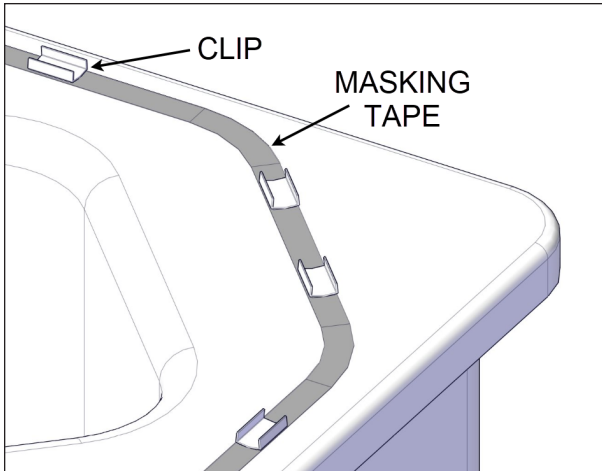
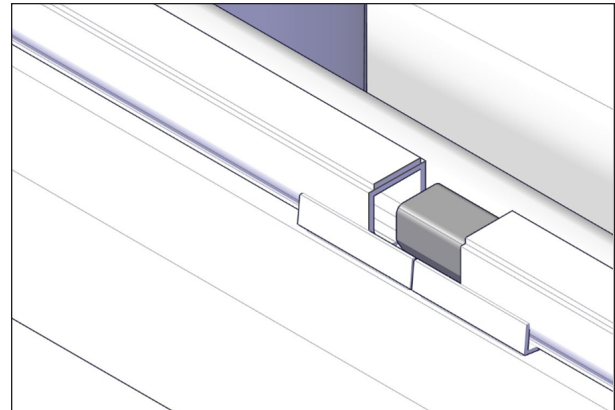
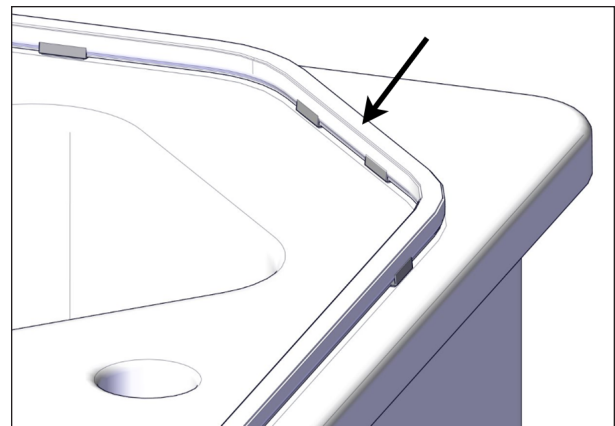

FIGURE 96: MASKING TAPE AND CLIPS
FIGURE 97: SEAL JOINT CONNECTOR
FIGURE 98: SEAL INSTALLATION
4. Apply the masking tape on the perimeter of the spa where the seal will be installed. The ideal location for the seal is closer to the swim spa interior edge on a flat surface, see Figure 96.
5. The number of seal clips is limited. Temporarily install the clips all around the spa to ensure the best distribution (do not stick yet). The minimum turn radius for the seal is 4" (10 cm), see Figure 96. Keep two clips for the seal joint connector as shown in Figure 97. Once the distribution is done, stick the clips in place (on the tape if applied).
6. The seal joint starts on the opposite side from the spa entrance. Install two clips where the seal joint connector will be located, see Figure 97.
7. Start installing the seal joint with the adhesive layer facing up towards the cover, see Figure 97 and Figure 98.
9. Insert the supplied seal connector in both ends of the seal. The use of masking tape to hold the two ends is recommended, see Figure 97.